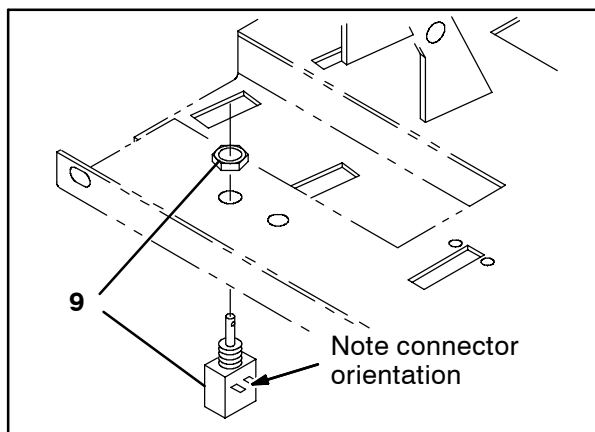
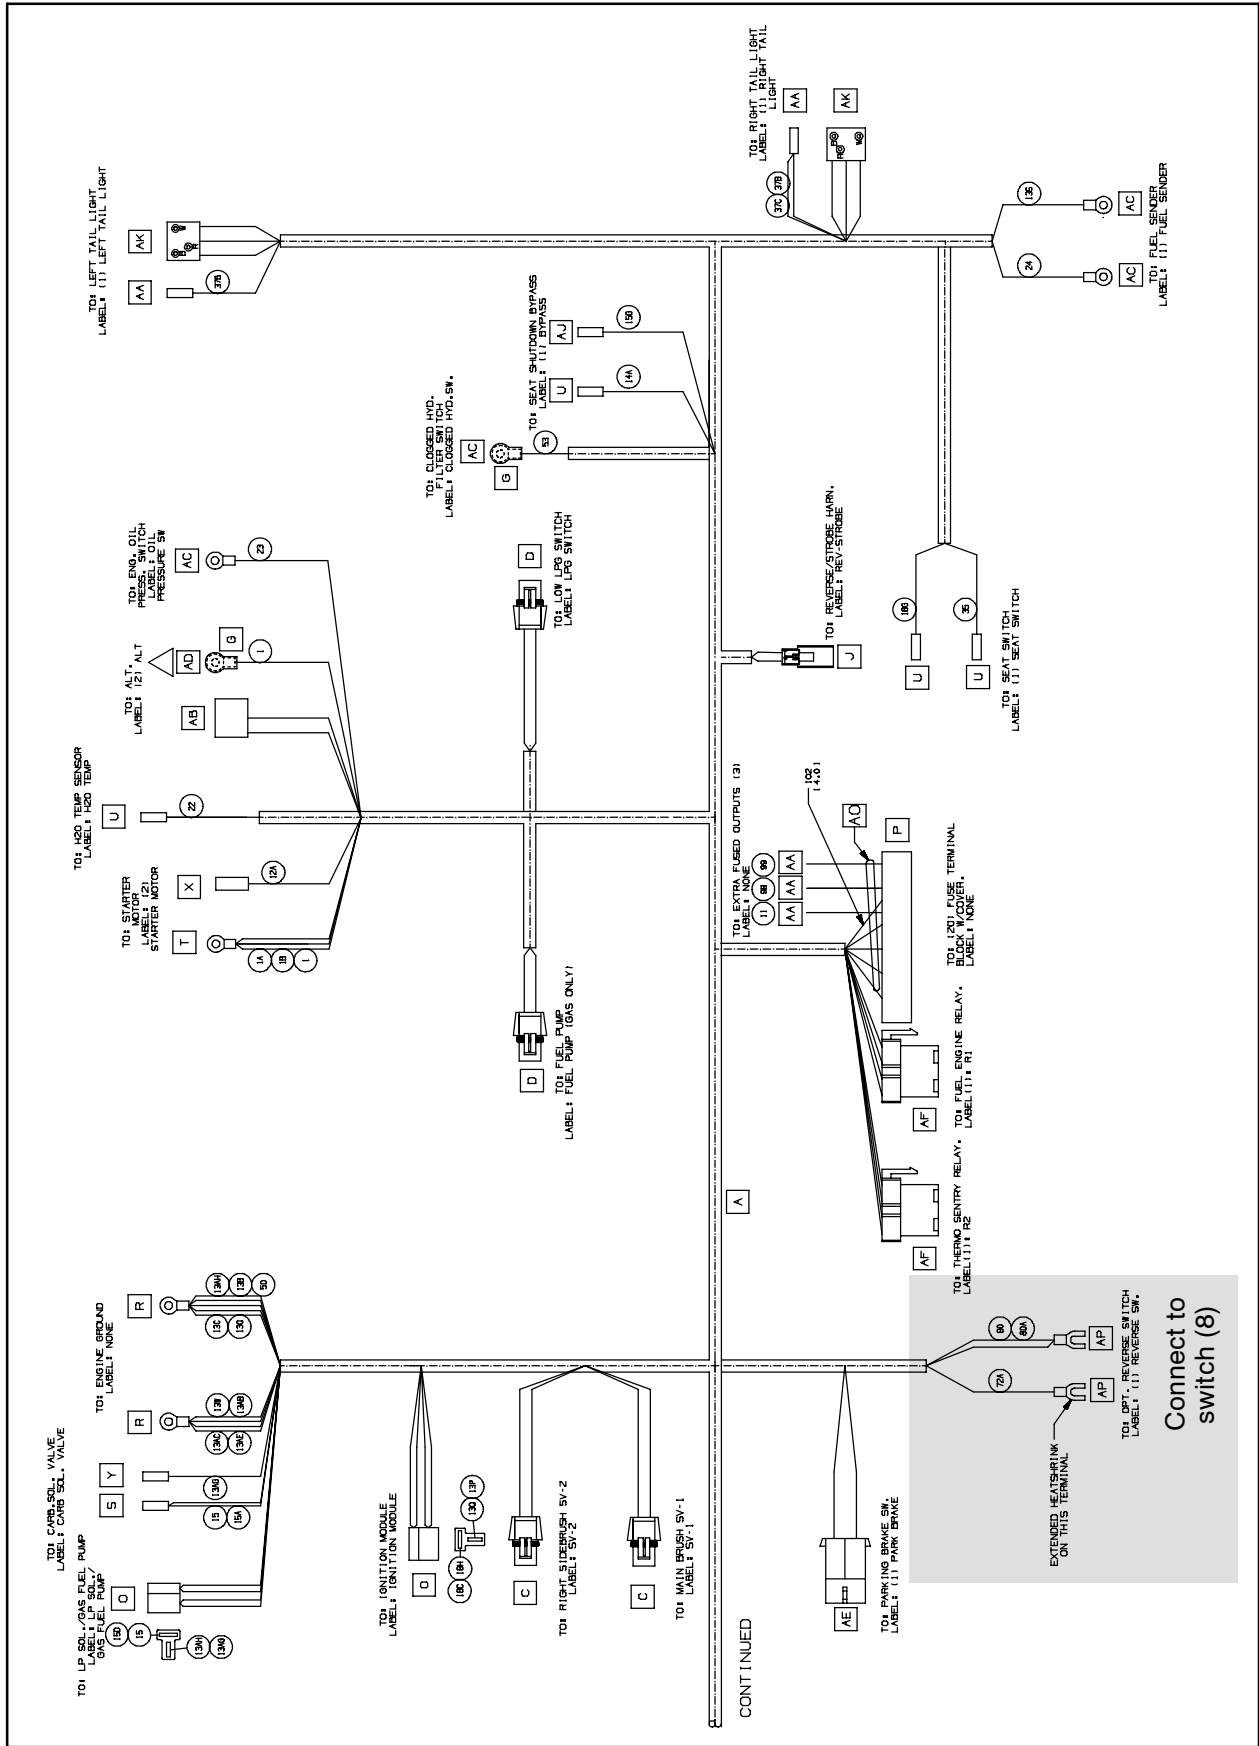

FIG. 10
FIG. 12
21. Connect the main wire harness to the switch (9). Refer to Fig. 12.
23. Remove the nut from the switch (9).
24. Hold the switch (9), reach through the open floor, insert the switch into hole in front of the directional pedal, and thread the nut onto the switch to secure the switch into place. Refer to Fig. 10.
NOTE: It is not necessary to remove the propel pedal to install items shown in Fig. 10. The exploded view is used to better illustrate how the parts are assembled.